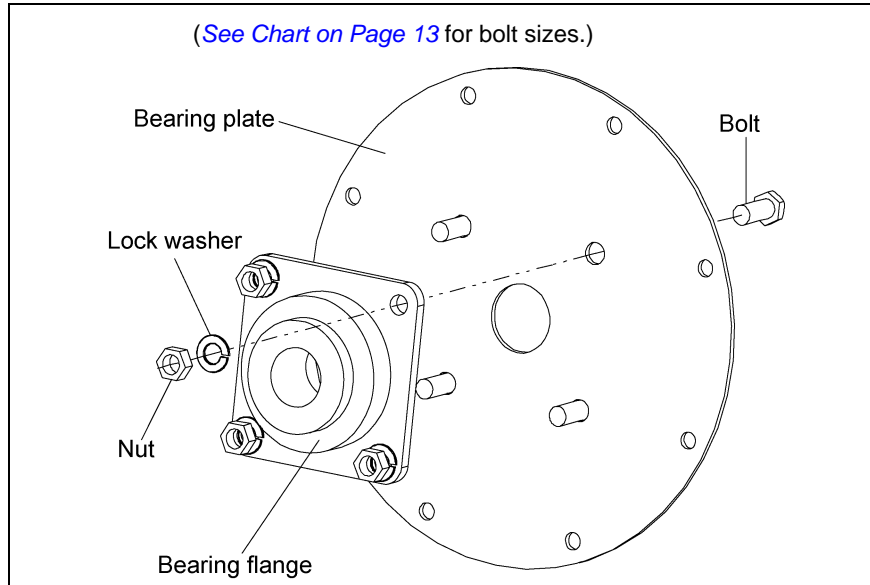

Figure 4B
2. Secure bearing to bearing plate using appropriate bolts, lock washers, and nuts. (*See Chart below and Figure 4B on Page 14.*)